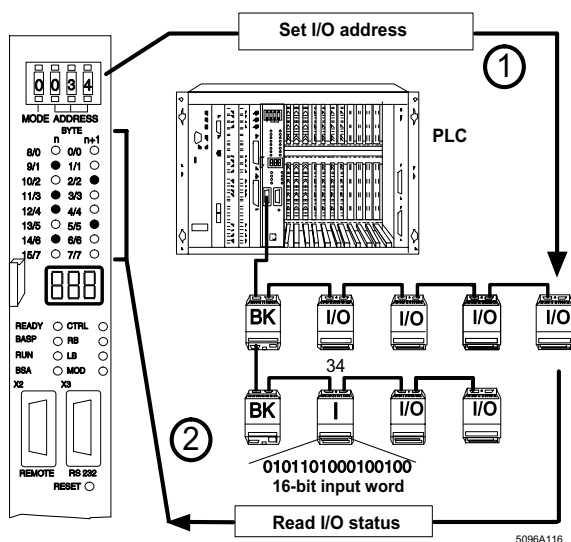

Figure 4: Example of a selector switch setting
Example: Figure 4 shows how the input data word (P area) of a set module address (1) is displayed on the controller board (2).